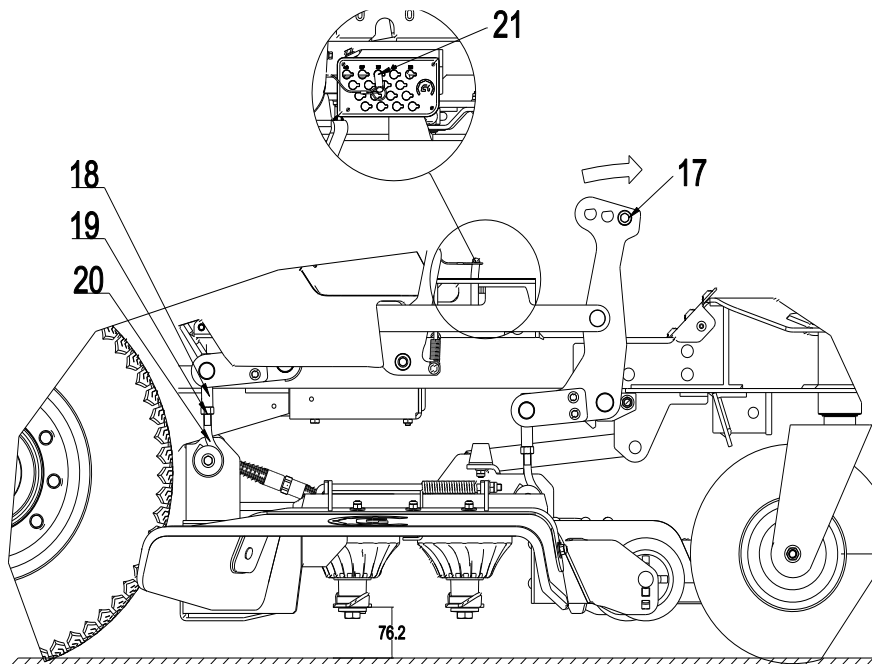

Fig. 8
4. Put the deck height limit pin (21) in the 3-inch limit hole as shown in Fig. 8 below.